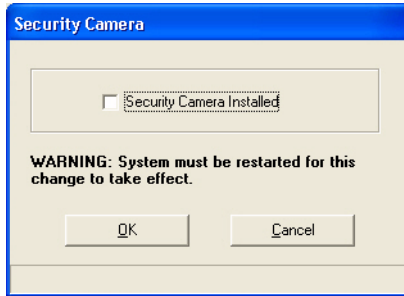

Figure 7-56 Security Camera Window
- From the Programming Access window select **System > Security Camera**. The Security Camera window opens as shown in Figure 7-56 below.